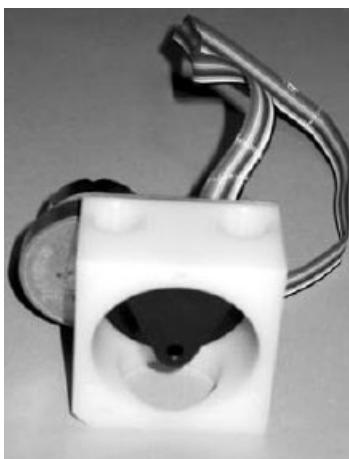

Figure 8 – rotor center position
2. Turn unit on and make sure the unit is not in AP mode. The rotor should revolve and stop at the "center" position (see Figure 8, below).